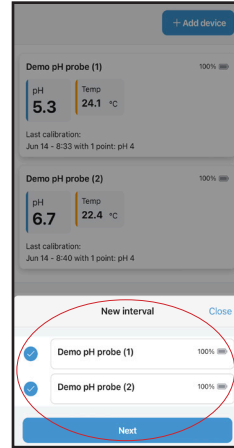

Figure 2
- Select which probes you want to use for the sample, click **Start Interval** (Figure 2)